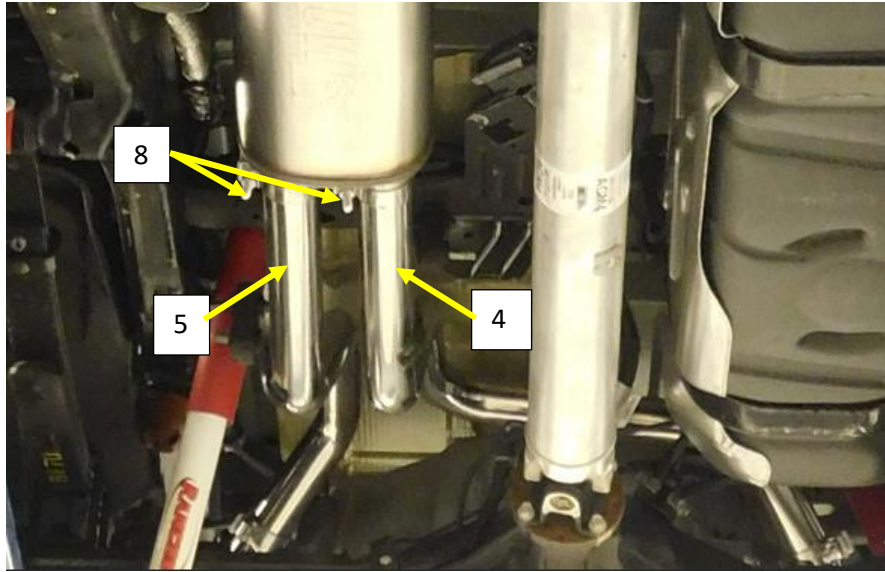

Figure.14
15. Install a 2.5" Band clamp (8) onto each of the muffler outlets. **Fig.14**
16. Install the Right front tail pipe (5) over the axle and into the muffler outlet neck. Rotate the pipe and install the hanger rod into the isolator, Tighten the clamp to allow for adjustment. **Fig.14**
17. Install the Left front tail pipe (4) over the axle and toward the driver's side of the spare tire. Install the tail pipe into the muffler outlet neck. Rotate the pipe and install the hanger rod into the isolator. Tighten the clamp to allow for adjustment. **Fig.14**